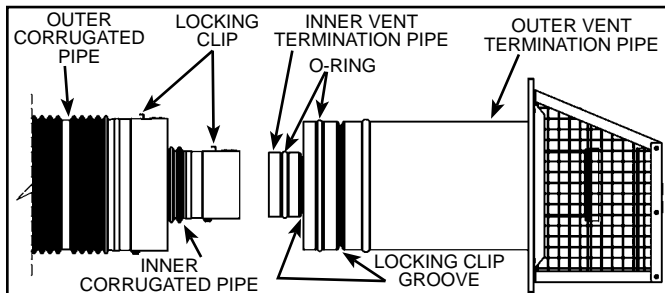
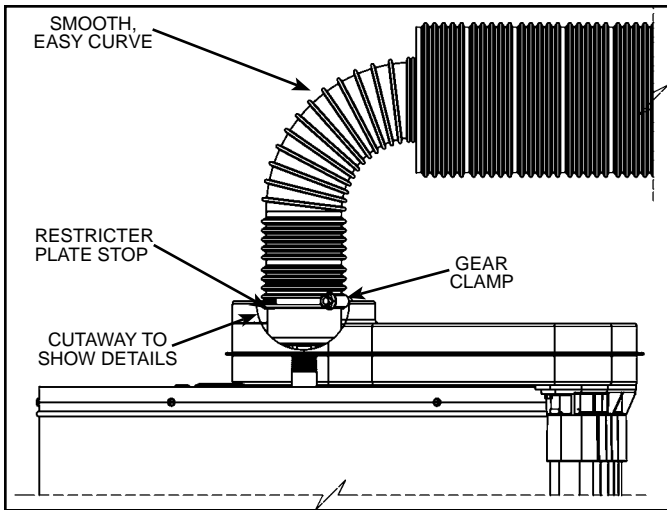
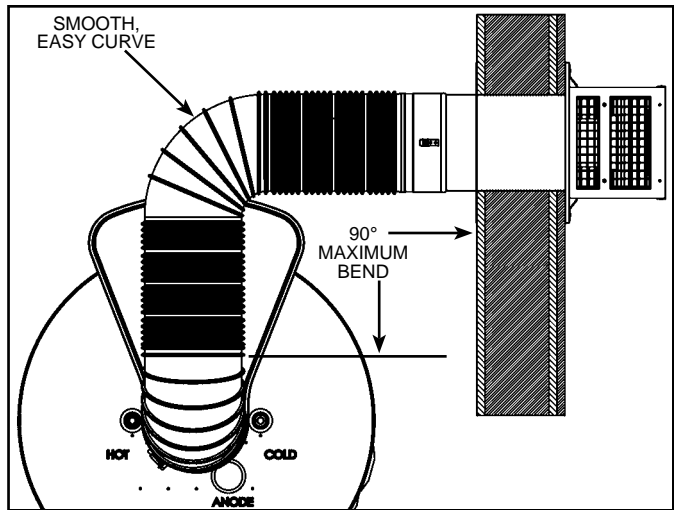
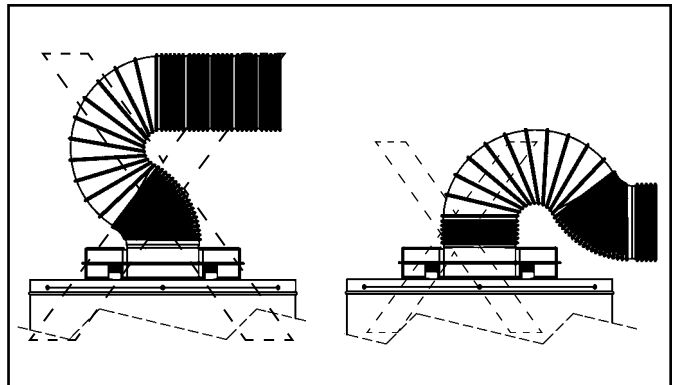

Figure 19
Figure 24
Figure 26
Figure 27
Figure 19 thru Figure 26 show how to assemble and connect the venting system.
To connect the vent piping to the vent termination hood, first slide the inner (3") corrugated pipe over the inner vent termination pipe. Continue this action until the locking clip on the corrugated pipe snaps into position in the corresponding groove (see Figure 19). Secure corrugated pipe with screw (supplied) inserted through hole opposite the locking clip.
Repeat this process with the outer (6") corrugated pipe and lock it into position on the outer pipe on the vent termination (see Figure 19). Secure corrugated pipe with screw (supplied) inserted through hole opposite the locking clip.
Bend both the corrugated pipes toward the flue connection on the water heater. Pull and connect the inner corrugated pipe to the water heater's flue tube reducer with hi-temp red silicone (included) and gear clamp. Make sure this connection is tight and leak proof (see Figure 24).
**Note:** To ensure good exhaust gas flow, bend vent piping using a smooth, easy curve as shown in Figure 24 thru Figure 26. Do not use reverse or compound curves as shown in Figure 27.